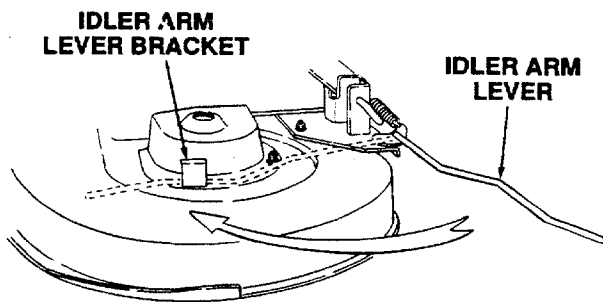

Figure 37
- Engage the deck idler arm lever into its stop bracket. (Refer to Figure 37.)